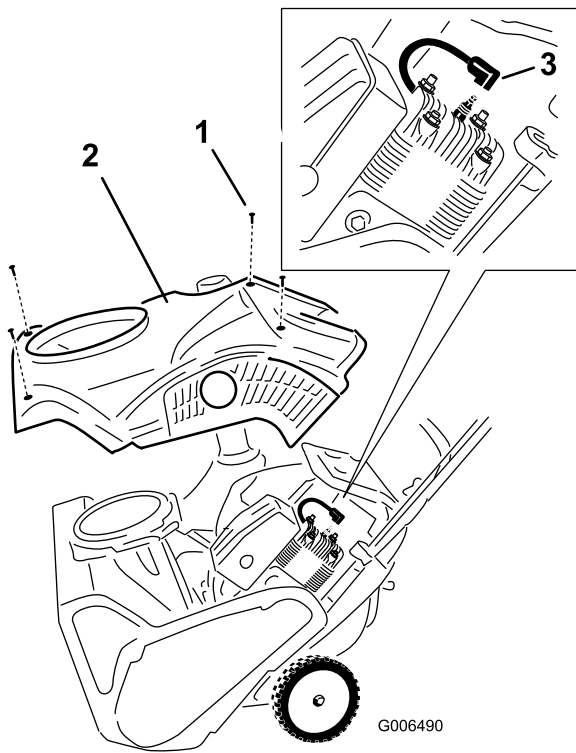

Figure 25
4. Remove the 4 screws that secure the shroud (Figure 25).
- 1. Screw (4)
6. Remove the shroud (Figure 25).